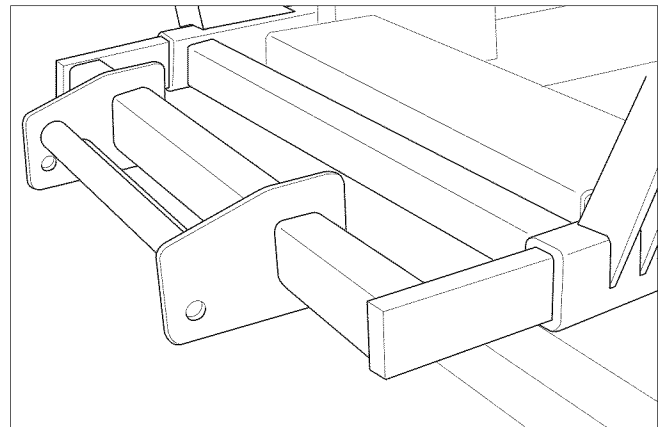

Figure 49. Weight Rack Installation
3. Slide the weight mount rack into the main frame tubes and align with the holes drilled through the frame (see Figure 49). It may require you drive the arms into the frame tubes using a wooden block and hammer.